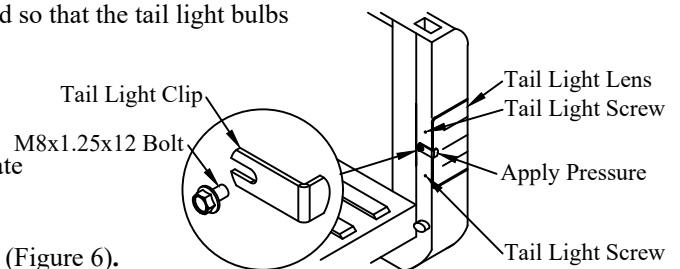

Figure 6: Tail light modification detail.
1. **Remove** four (4) factory tail light screws, two (2) per side (Figure 6).
2. **Install** M8 x 1.25 x 12 bolts and tail light clips (supplied) in the tailgate cable catch bolt locations (Figure 6).
3. **Apply** pressure to the tail light from the rear while tightening the bolt (Figure 6).